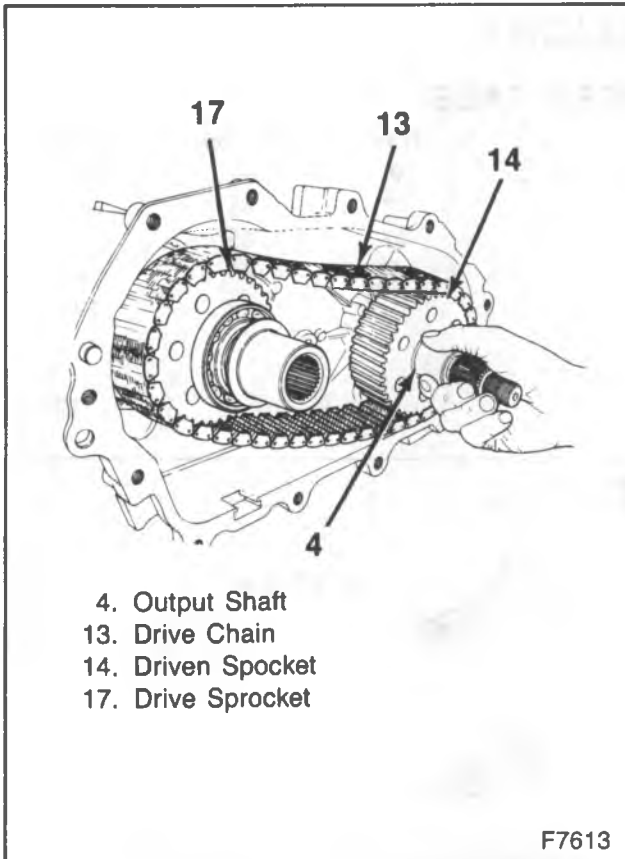

Figure 21—Installing the Drive Chain Assembly
14. Drive chain (13) over the drive sprocket (17) and the front output shaft (4) into the output shaft rear bearing (39) (figure 21).